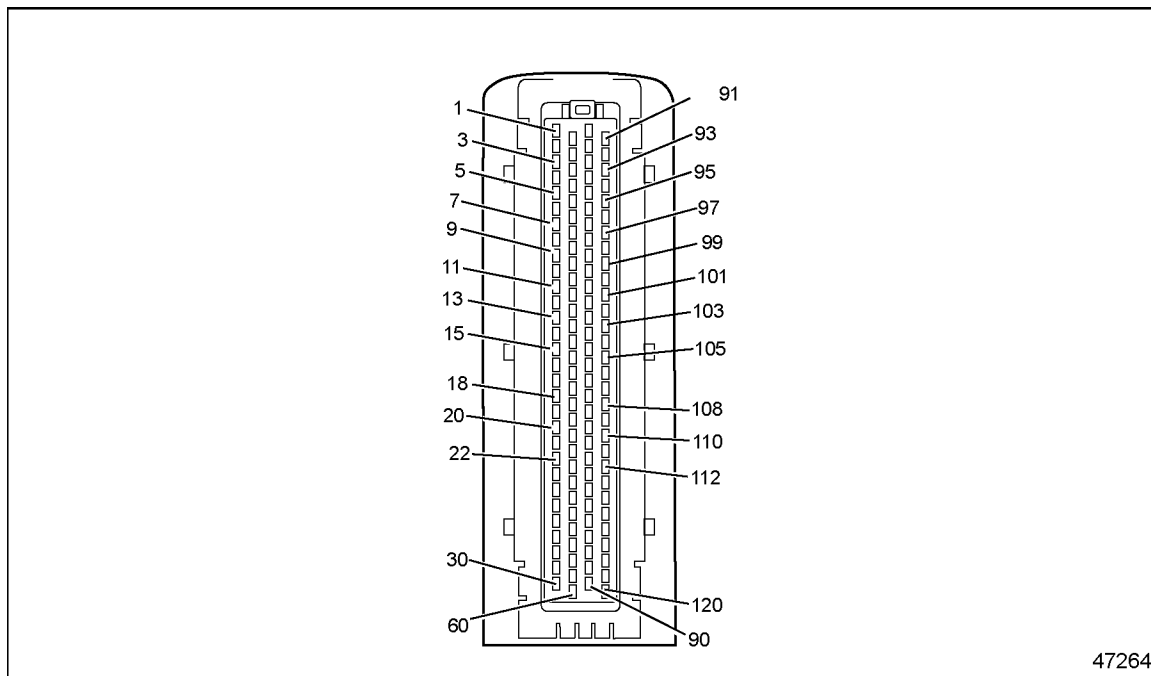

Figure 121-1 120-pin MCM Connector
- [a] If voltage is present, repair the short to power between pin 11 of the Rear Injector Harness 12-pin connector and pin 9 of the 120-pin MCM connector. See Figure 121-1. Refer to section 121.1.1.1.